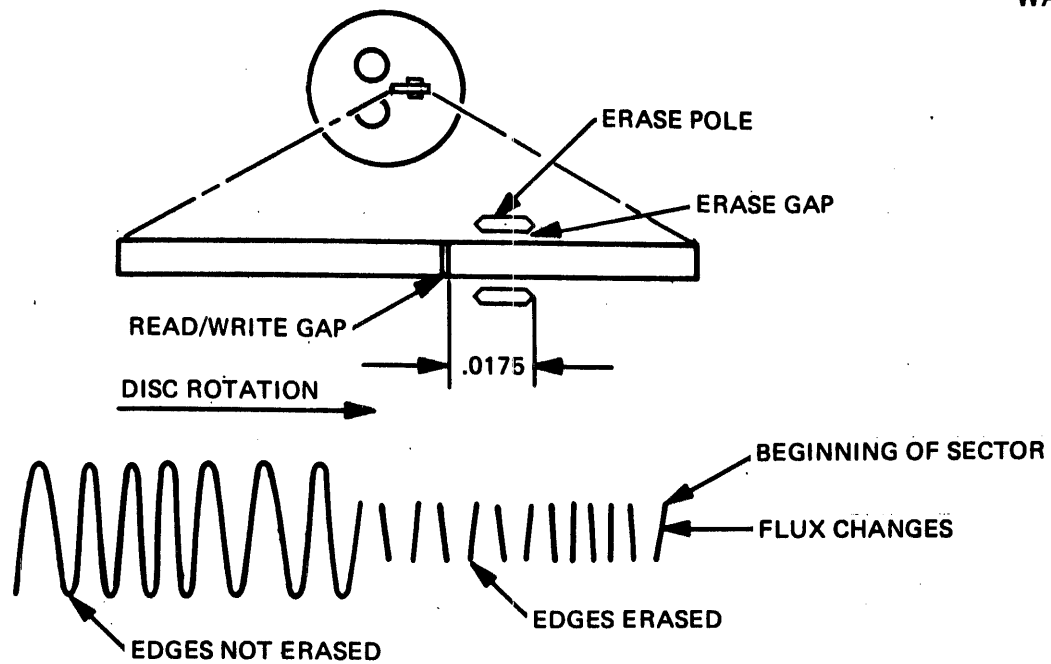

Figure 4-31. Edge Erasing
4.5.8.5 Erasing. Drive current for the erase coil is supplied by the Erase Driver which is gated on by an AND gate in the ERASE input line. The erase coil is energized automatically during a Write operation. The output of the gate turns on a transistor whose output is routed to, and activates, the erase windings on the Read/Write heads. The erase gap on each side of the data track is used to erase both edges of the written track to improve reliability of the written data as shown in Figure 4-31.